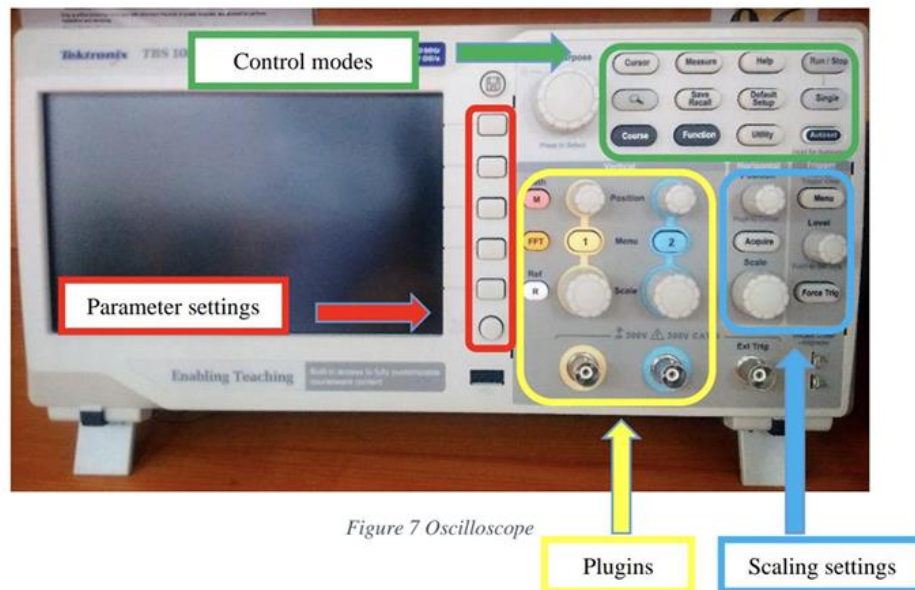

Fig. 5. Digital Oscilloscope
5.1.1 Construct the circuit in Fig. 5 with $R_1 = 2.2\text{k}\Omega$, and $R_f = 10\text{k}\Omega$, 1V input signal at 1Khz. Measure the gain. Sketch the results on the oscilloscope.